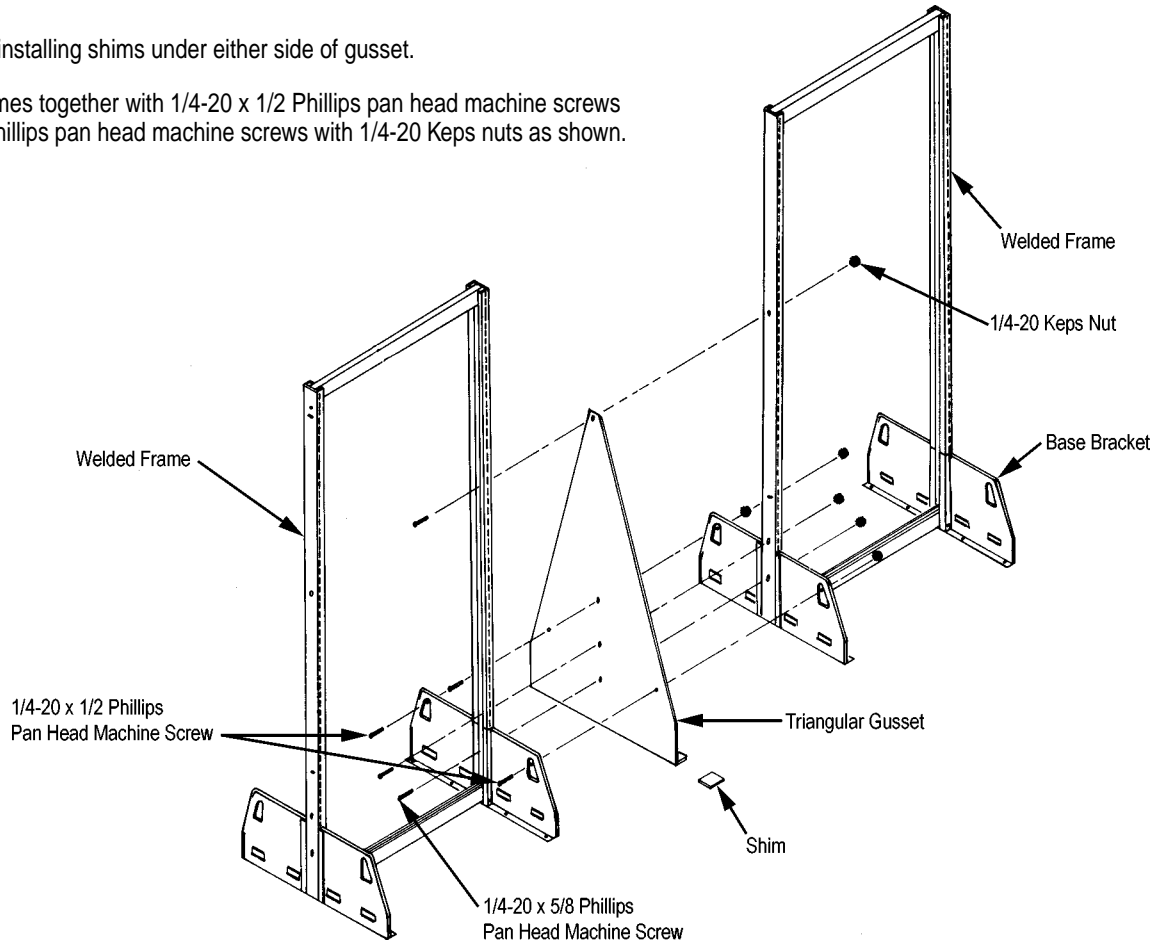

FIGURE 13
1. Before joining welded frames side-by-side, sandwich triangular gussets between frames and base brackets and fasten with 1/4-20 x 1/2 Phillips pan head machine screws. See Figure 13.
3. Secure welded frames together with 1/4-20 x 1/2 Phillips pan head machine screws and 1/4-20 x 5/8 Phillips pan head machine screws with 1/4-20 Keps nuts as shown. See Figure 13.